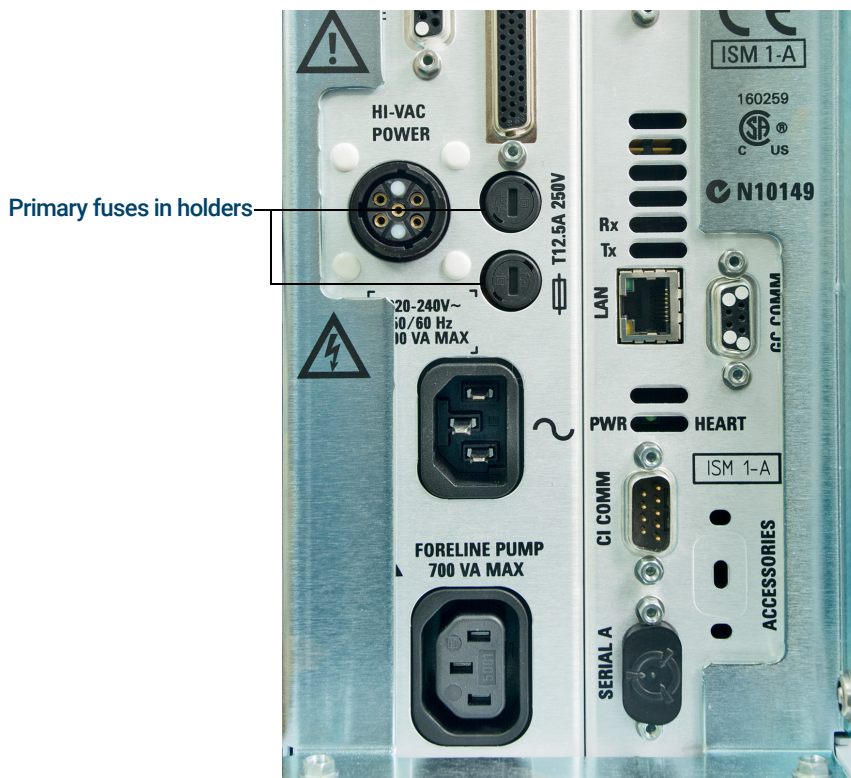

Figure 2. Primary fuses
- 2 Turn one of the fuse holders counterclockwise until it pops out. The fuse holders are spring loaded. (See Figure 2 on page 33.)